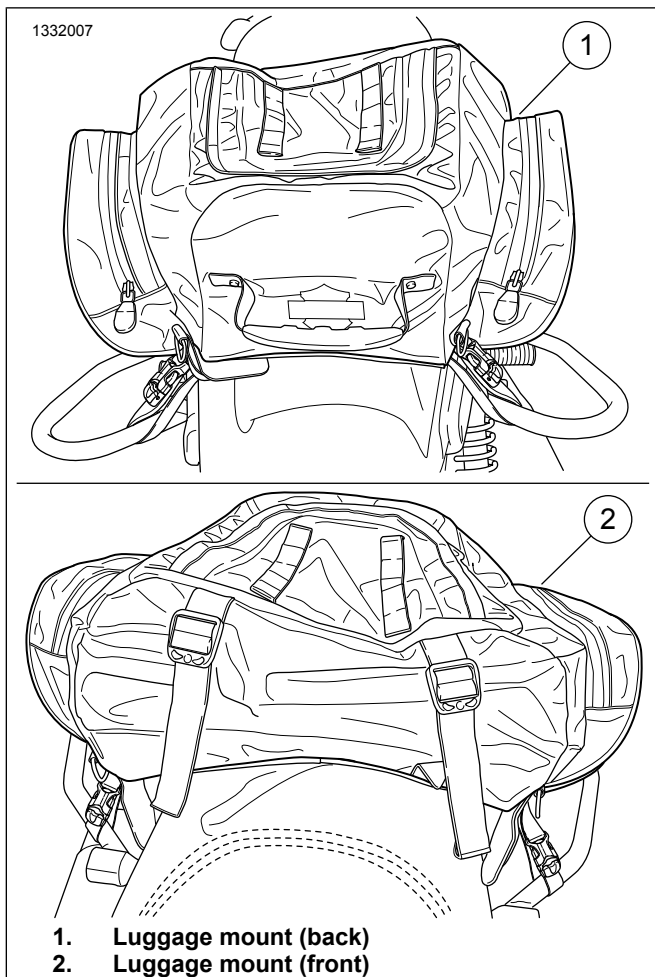

Figure 6. Tail Bag
- a. Figure 6 Secure four straps with quick-release buckles to luggage rack, sissy bar or other vehicle structure.
1. Figure 6 Position bag on pillion.